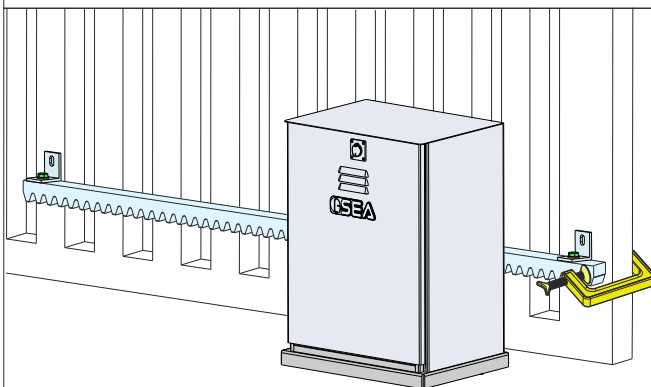

Fig. 15
- 7.4. Make the holes on the gate structure in correspondence with the «B» holes on the metal supports, then fix the gear rack to the gate - Fig. 15 - using screws (**NOT SUPPLIED**)